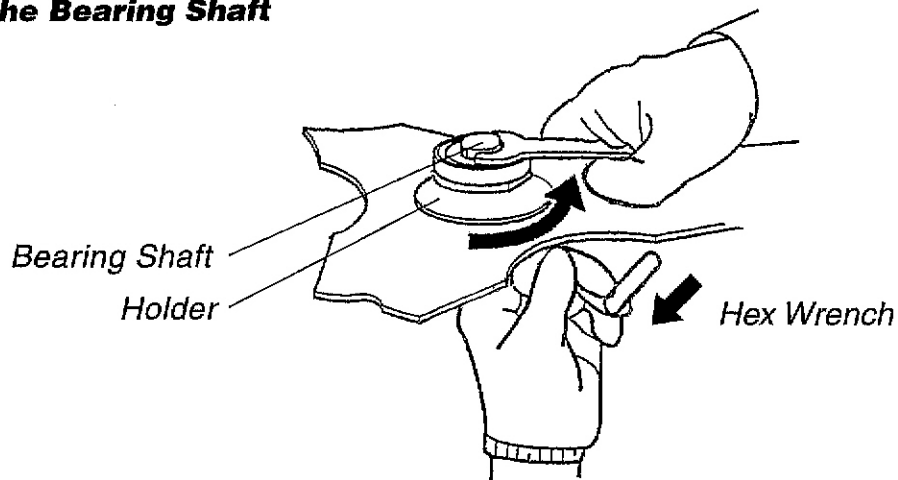

Figure 21
3. Lock Holder A with the hex wrench and thread the bearing shaft on the output shaft hand tight turning counterclockwise. Then, tighten the bearing shaft with the open end wrench securely. See Figure 21.